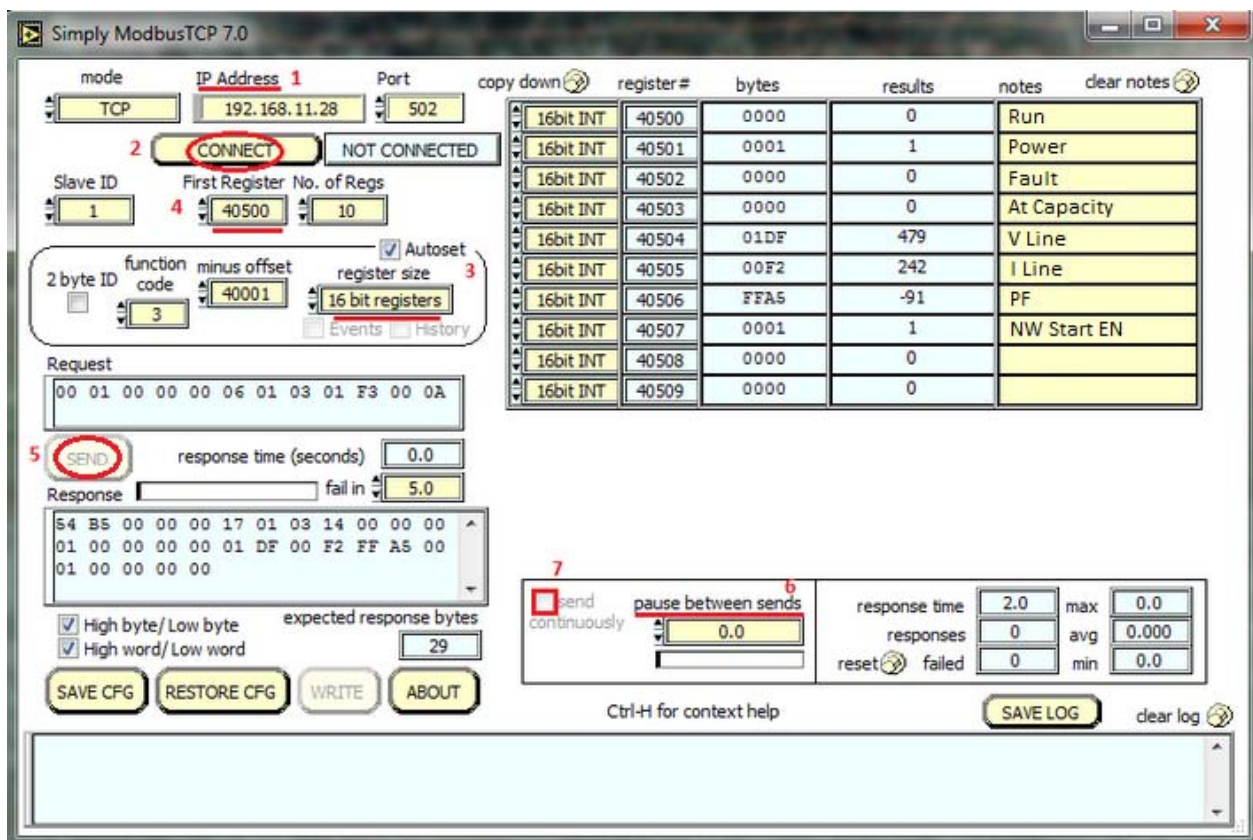
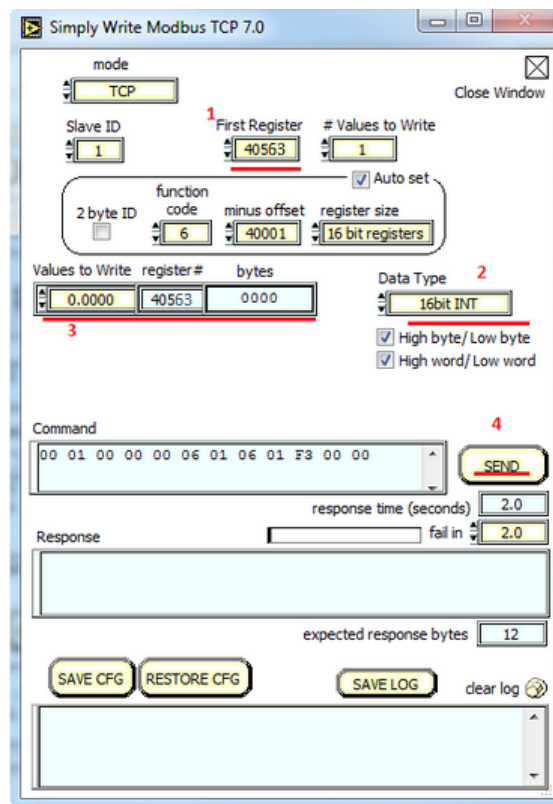

Figure 9.11: Simply Modbus Screen
Figure 9.12: Simply Write Modbus Screen
- In our example the Modbus TCP master is “Simply Modbus”, see Figure 9.11.
- Reference **Figure 9.11** and click the write command in the Simply Modbus main window.
- Select the first register value as “40563” (1), (this address reference to the Master network enable).
- Select the data type as 16 bit INT (2).
- Write the value as “1” in register number “40563 (3) and hit SEND (4).
- The changes can be observed in the main window, see **Figure 9.12**.